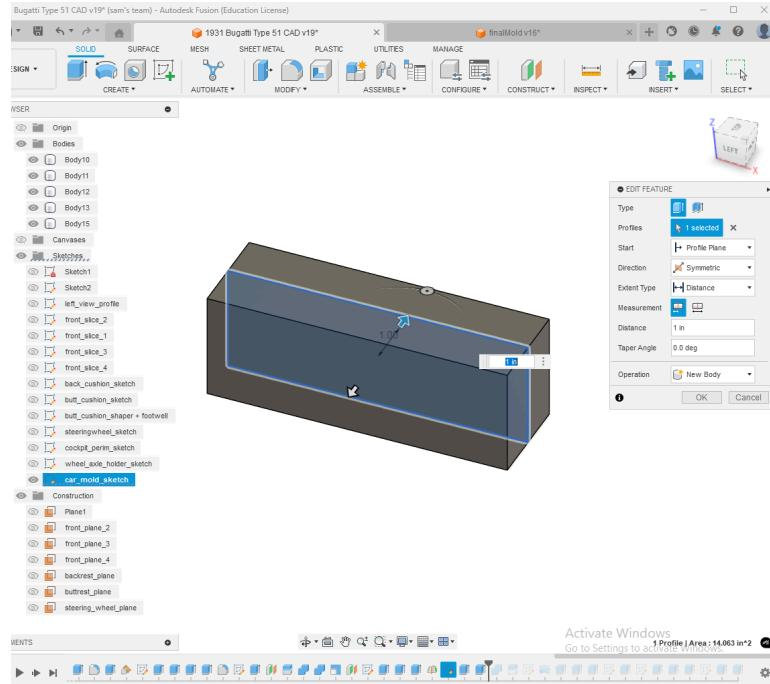

Fig. 29: Symmetrical extrusion of rectangular sketch
5. Extrude the rectangular sketch symmetrically from the center so the box is 2” wide, as shown in **Fig. 29**.